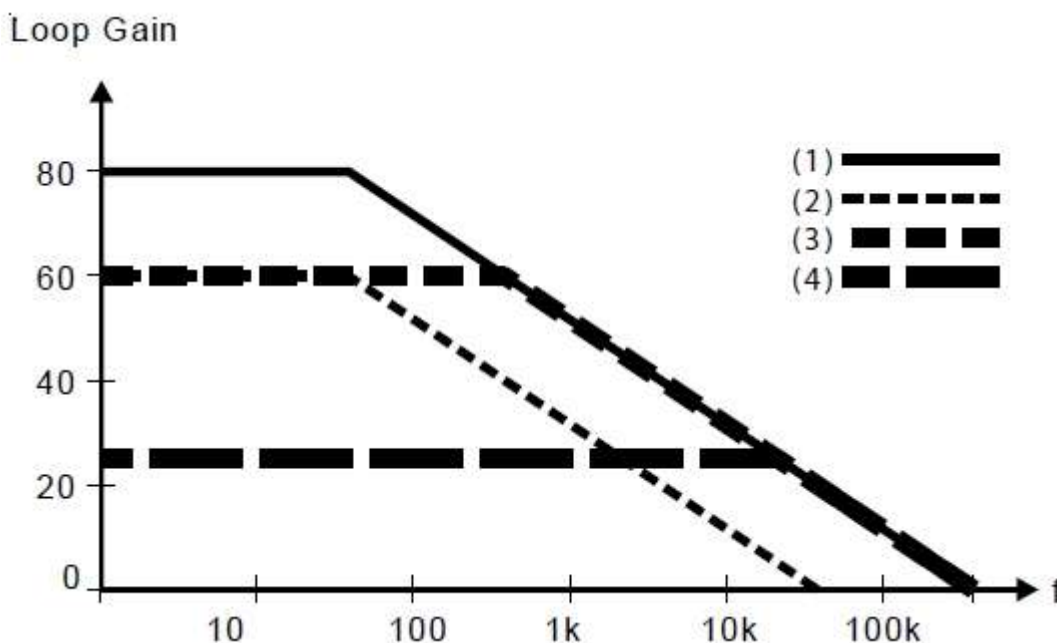

Figure 12: Degenerating the input differential pair.
In Figure 12, trace (1) shows the original loop gain. After degenerating the input pair by, say, a factor 10, something like trace 2 would result. It would, however, be quite pointless to let the unity-gain frequency drop by a factor of ten since the amplifier will now remain just as stable with a compensation C that's ten times smaller. The whole curve shifts a decade to the right, which effectively jacks HF loop gain back up 20dB (trace 3). In the end, only DC loop gain is 20dB down but little else has changed. For most of the audio band, traces 1 and 3 overlap.
A second step in the experiment consisted of placing a resistor across compensation capacitor C that reduced DC gain to the same value as that at 20kHz (Figure 12, trace 4). The test amplifier was of the folded-cascode persuasion, which allowed this. At this stage, loop gain has indeed been reduced across the full audio range. I surmise that since the amplifier's distortion was never negligible, making it constant across the audio band makes it fly under the psychoacoustic radar more easily. My own subjective experience would support this.